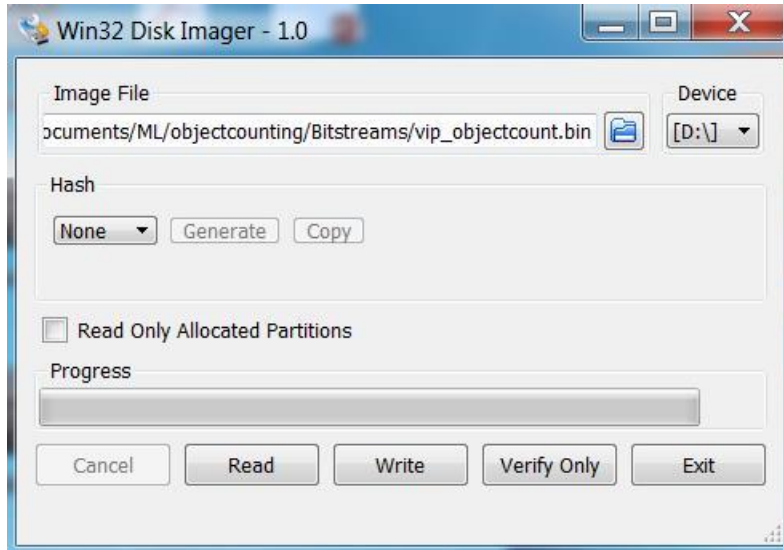

Figure 4.10. Win32 Disk Imager
4. In Win32 Disk Imager, select the image file `~/Demonstration/vip_objectcount.bin` as shown in Figure 4.10.